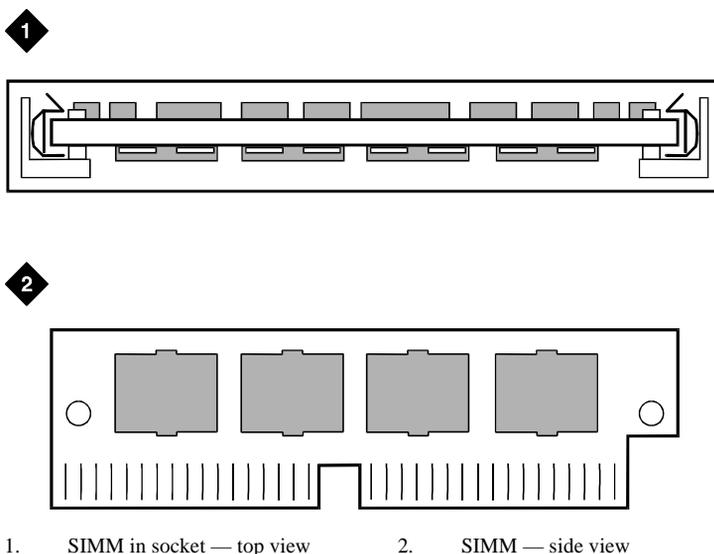

Figure 7-7. SIMM Socket
1. Release the metal snap locks at the edge of the SIMM2 socket by gently pushing the locks to the outside (Figure 7-7).